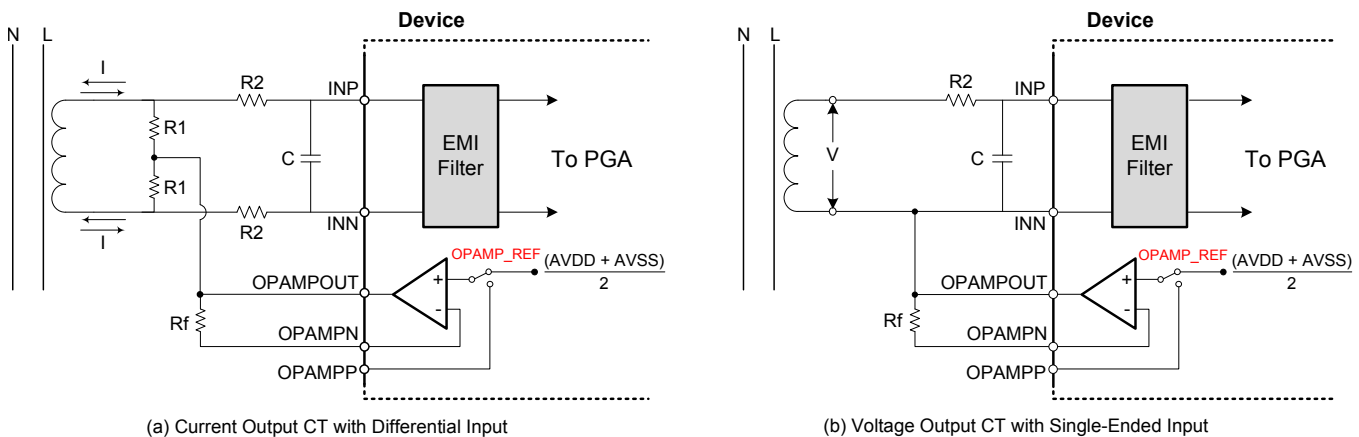

Figure 41. Simplified Current-Sensing Connections
Figure 41 shows a simplified diagram of typical configurations used for current sensing with a Rogowski coil, current transformer (CT), or an air coil that outputs a current or voltage. In the case of current-output transformers, the burden resistors ($R1$) are used for current-to-voltage conversion. The burden resistor output is connected to the ADS130E08 INP and INN inputs through an antialiasing RC filter for current sensing. In the case of voltage-output transformers (such as certain types of Rogowski coils), the transformer output terminals are directly connected to the ADS130E08 INP and INN inputs through an antialiasing RC filter for current sensing. The common-mode bias voltage ($AVDD + AVSS$) / 2, can be obtained from the ADS130E08 by either configuring the internal op amp in a unity-gain configuration using the R_F resistor and setting bit 3 of CONFIG3: Configuration Register 3, or it can be generated externally with a simple resistor divider network between the positive and negative supplies.